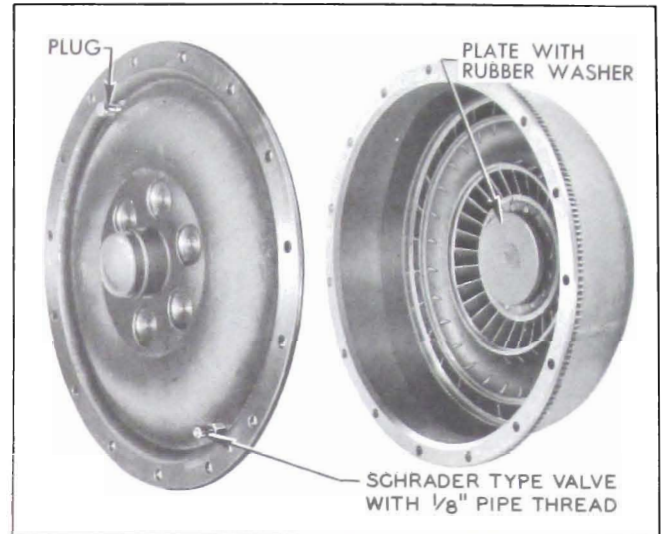

Figure 5-56—Plate and Plugs Installed in Pump and Cover
2. Install plate with washer over inside surface of pump hub (Figure 5-56), then install pump cover with seal and tighten all bolts to 25-30 ft. lbs. torque in sequence shown in Figure 5-133.